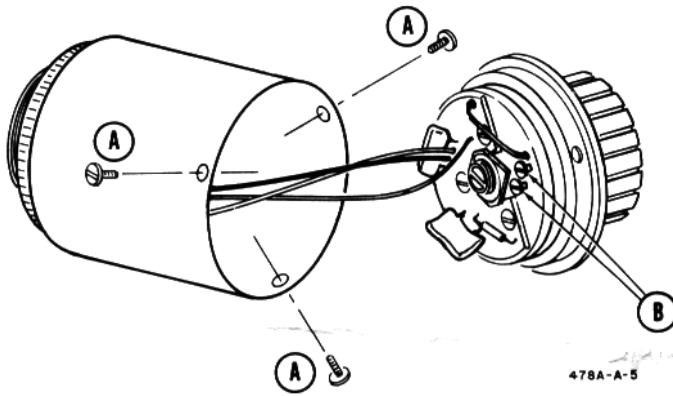

Figure 7. Thermistor Compensation
60. Refer to Figure 7, and proceed as follows:
- a. Remove the three screws (A).